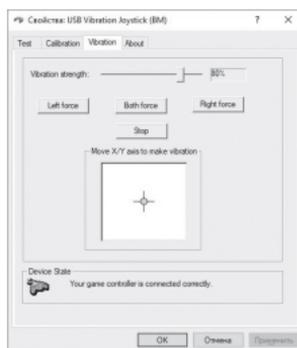

Fig. 11
- In the «Vibration Test» tab, you can check the operation of both vibrators together by pressing the «Both force» button; or separately, by pressing the «Left force» and «Right force» buttons. And also by rotating the left joystick in the analog mode of operation or by pressing the 8-way joystick in the digital mode of operation (Fig. 11). To stop the test, press the «Stop» button. Moving the cursor in the row «Vibration strength» we can increase or decrease the force of vibration. To save the settings, click «Apply» or «OK» in the bottom line of this window.